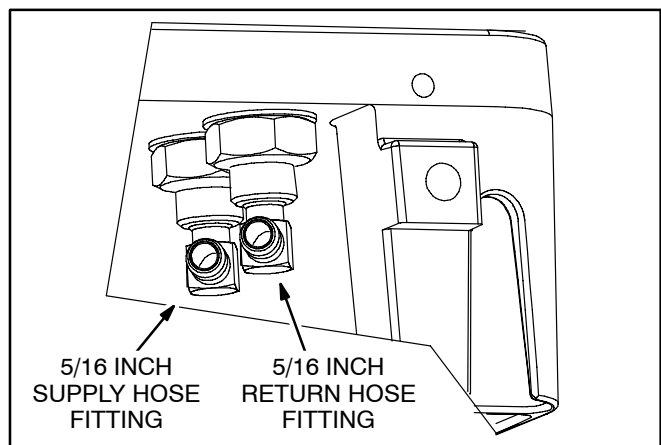
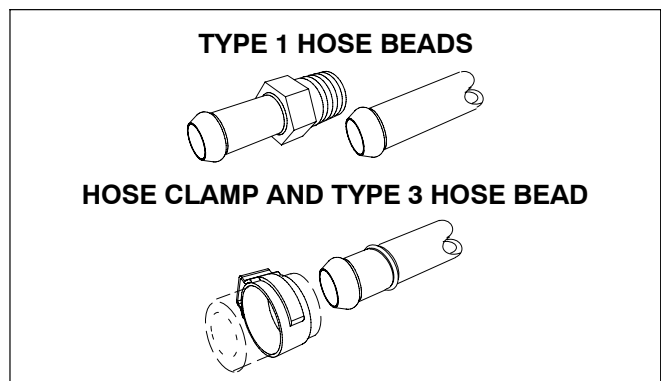

FIGURE 4-2. FUEL FITTINGS—LEFT END OF BASE
FIGURE 4-3. DOUBLE-FLARE SAE J1231 HOSE BEADS AND STEPLESS EAR CLAMP
Figure 4-2 illustrates the supply and return fuel fittings on the genset and Figure 4-3 the type of hose clamps and hose beads required for fuel connections. Use stainless steel stepless ear clamps, Onan P/N 0503-1951-13 (Oetiker P/N 16700013).
double-flare hose beads (Figure 4-3). This is recommended for all tubing and fittings.
- **Hose Clamps:** Use stainless steel stepless ear clamps (Figure 4-3). Onan P/N 0503-1951-11, Oetiker P/N 16700011 or equivalent are recommended.